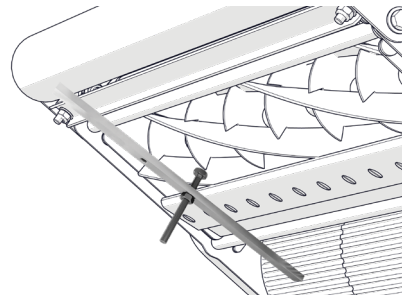

Fig.12G - Repeat process on the other side
8. Repeat step 7 for the second position on the other side of the cassette (Fig.12G).
- Repeat step 7 for the second position on the other side of the cassette (Fig.12G).